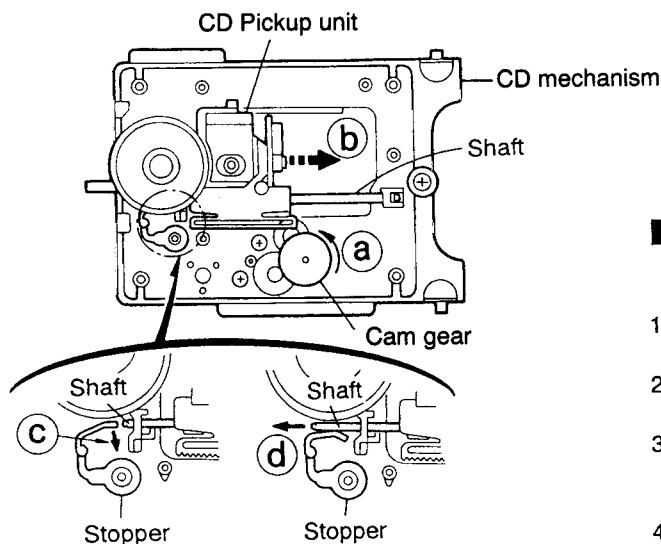

Fig.5-47
**Removing the CD pickup unit** (See Fig.5-47)
1. Move the cam gear in the arrow direction ①. Then, the CD pickup unit will be moved in the arrow direction ②.
2. According to the above step, shift the CD pickup unit to the center position (See Fig.5-47).
3. While pressing the stopper retaining the shaft in the arrow direction ③, pull out the shaft in the arrow direction ④ (See Fig.5-47).